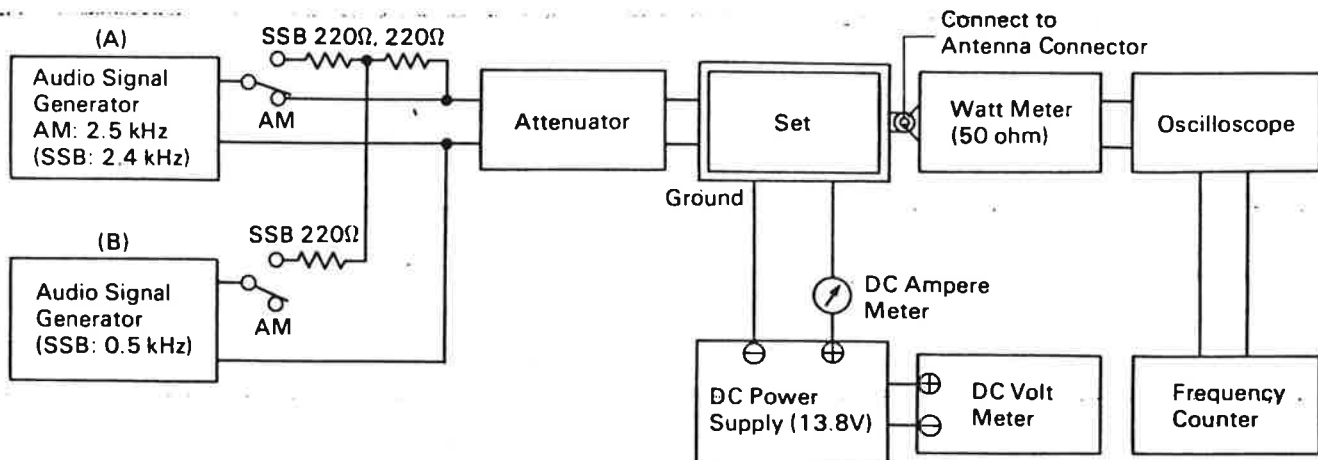

Figure 20
- 3) Connection of test equipments is shown in figure 20.
- 5) Set audio oscillator A (figure 20) to 2.5 kHz, adjust the attenuator so that the input level of the set is 0.5 — 100 mVrms, and make sure that normal modulation is applied and no abnormality (excess modulation, negative modulation, or modulation of less than 70%) is found in the AMC circuit operation.